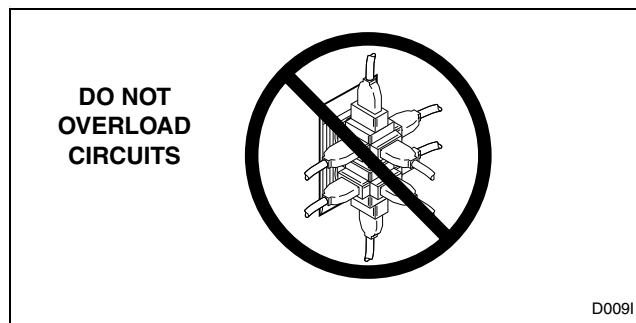

Figure 18
- DO NOT OPERATE OTHER APPLIANCES ON THE SAME CIRCUIT WHEN THIS APPLIANCE IS OPERATING. DO NOT OVERLOAD CIRCUITS! Refer to *Figure 18*.